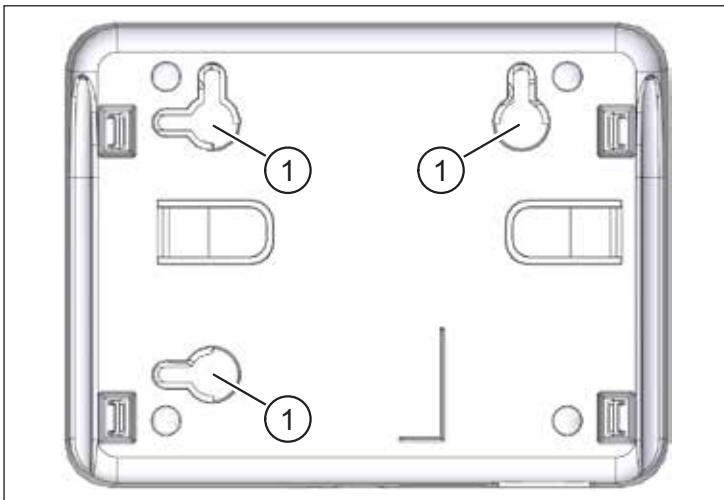

Fig. 2: Cut-outs on the back of the gateway
On the back of the gateway, there are three cut-outs (item 1 in Fig. 2) for screw heads. This will allow you to attach the unit horizontally or vertically to the wall.